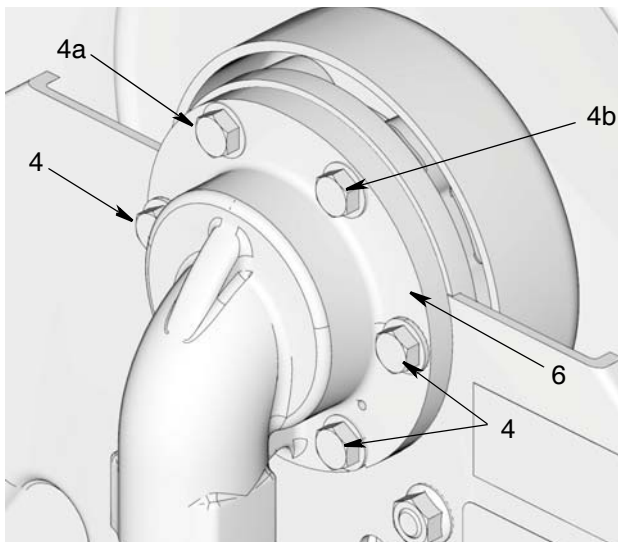

FIG. 6
4. Install inlet (6) on hose reel.
- a. Position inlet (6) in the desired orientation on the base. (FIG. 6).
- b. First install the top 2 bolts (4a and 4b) as shown in FIG. 6 through frame and inlet (6). Tighten bolts just enough to hold everything in place.
- c. Install the remaining bolts (4) (FIG. 6). Hand tighten and then torque all bolts to 13-16 ft. lbs (17.6-20.3 N•m).